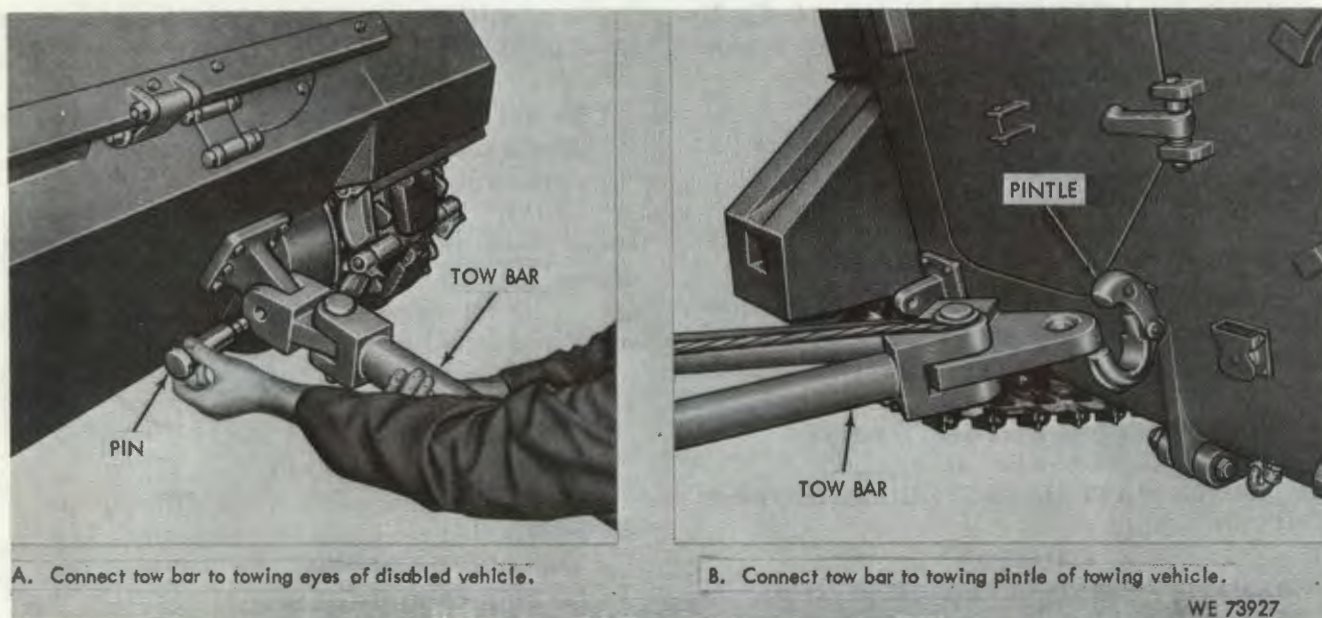

Figure 2-44. Connecting tow bar between vehicles.
(1) Connect tow bar to towing eyes of disabled vehicle (A, fig 2-44).
(2) Connect tow bar to pintle of towing vehicle (B, fig 2-44).